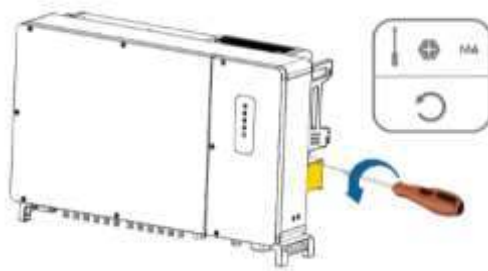

Fig. 6-1 Fan module
- 2) Loosen the screw on the sealing plate of the fan module (Fig. 6-1).